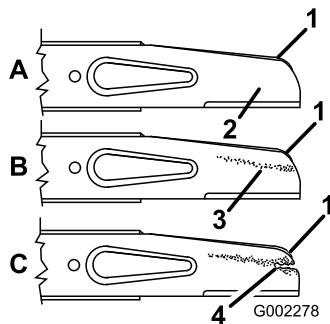

Figure 26
8. Use your finger to coat the gasket on the new oil filter with oil (Figure 26).
2. Remove the blade bolt, the lock washer, the accelerator, and the blade (Figure 26).